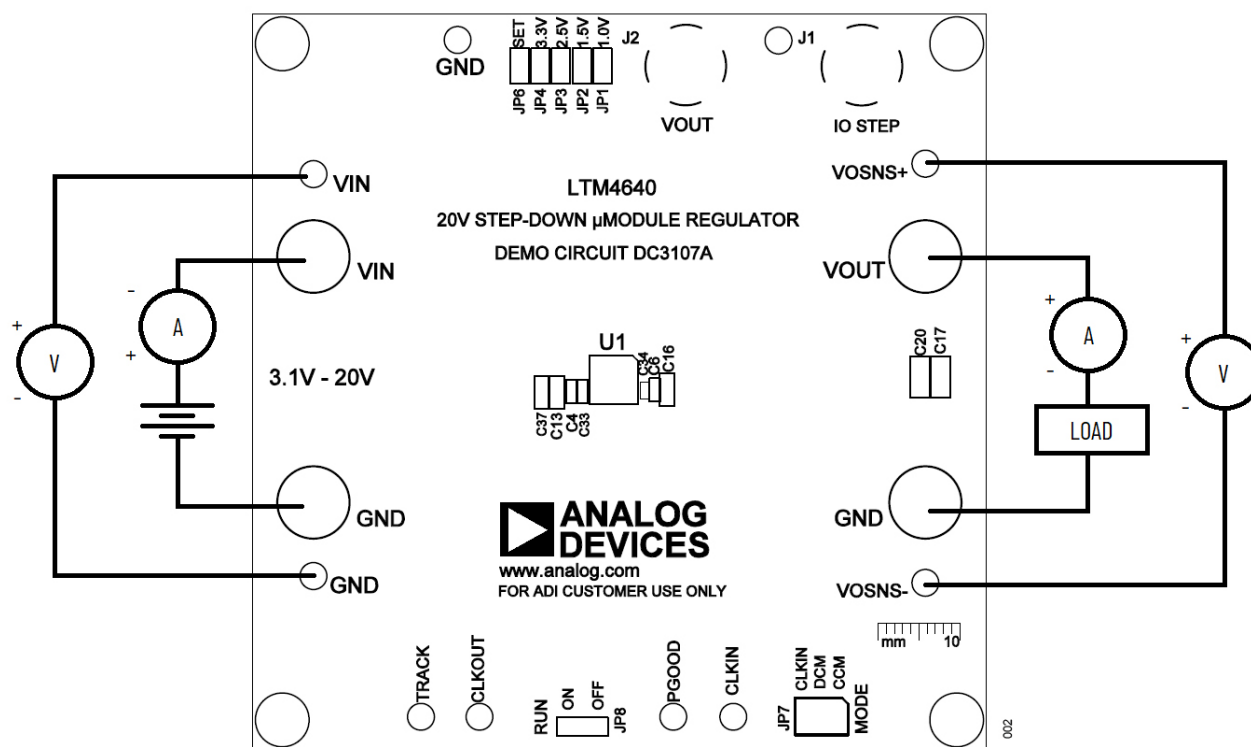

Figure 2. Test Setup of DC3107A Evaluation Board
The DC3107A evaluation board is an easy way to evaluate the performance of the LTM4640. See Figure 2 for test setup connections and use the following procedure.
2. With the power off, connect the input voltage supply, electronic load, and DMMs, as shown in Figure 2. Preset the load current to 0A.